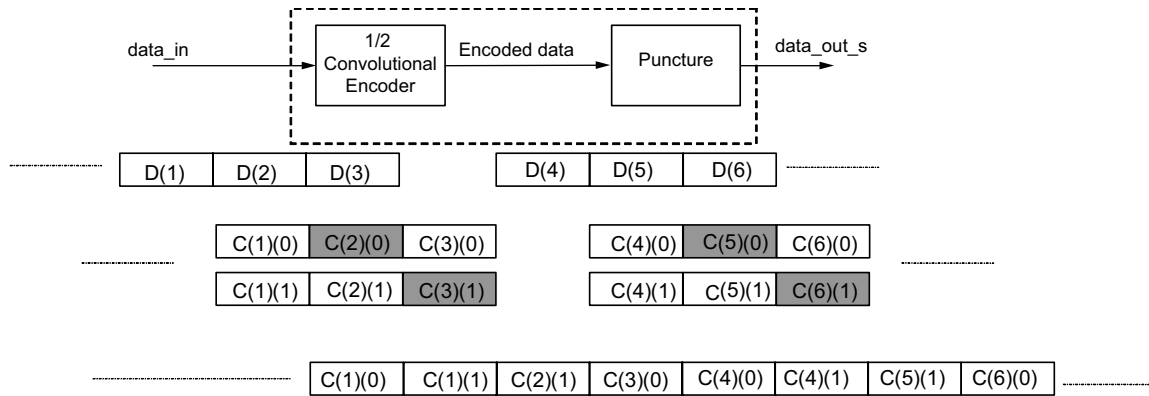
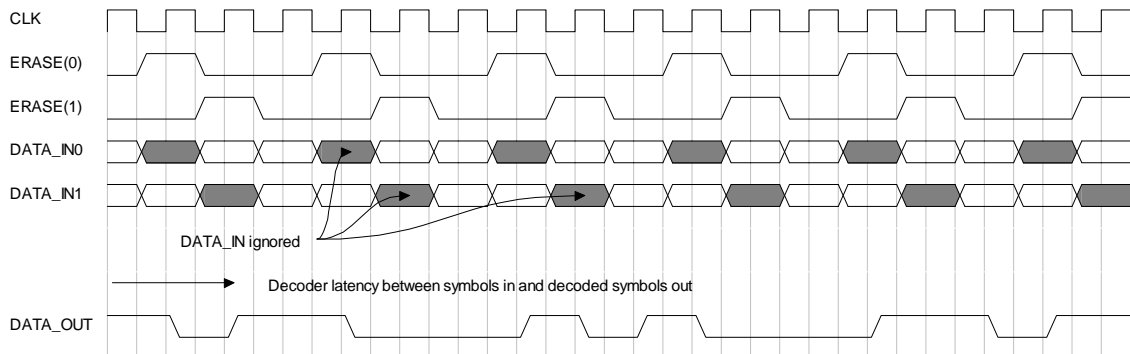

Figure 3-7: Puncturing Encoded Data with 3/4 Puncture Rate with Single-Channel Output
Figure 3-9: Viterbi Decoder with Erasure Input Following a Rate 3/4 Pattern
If the data has been punctured prior to transmission, then de-puncturing is carried out externally to the Viterbi Decoder (see Figures 3-7 and 3-8). The presence of null-symbols (that is, symbols which have been deleted prior to transmission across the channel) is indicated using the erasure input ERASE. The decoder functions exactly as a non-punctured Viterbi Decoder, except the corresponding DATA\_IN inputs are ignored when the erased input bit is High. If ERASE(0) is High, then the input on DATA\_IN0 is viewed as a null-symbol. If ERASE(1) is High, then the input on DATA\_IN1 is viewed as a null symbol. Although the normal usage of erasure is with a rate 1/2 decoder, the erasure pins can be present for output rates greater than 2. Erasure can be used with the Standard, Multichannel and Dual Decoder. Erasure cannot be present on the Trellis Mode Decoder. See the timing diagram in Figure 3-9 for a decoder working with external rate 3/4 erasure.
**Note:** DATA\_IN0 and DATA\_IN1 are the fields on the s\_axis\_data\_tdata bus, and ERASE(0) and ERASE(1) are on the s\_axis\_data\_tuser bus. The output data, DATA\_OUT, is on the m\_axis\_data\_tdata bus.